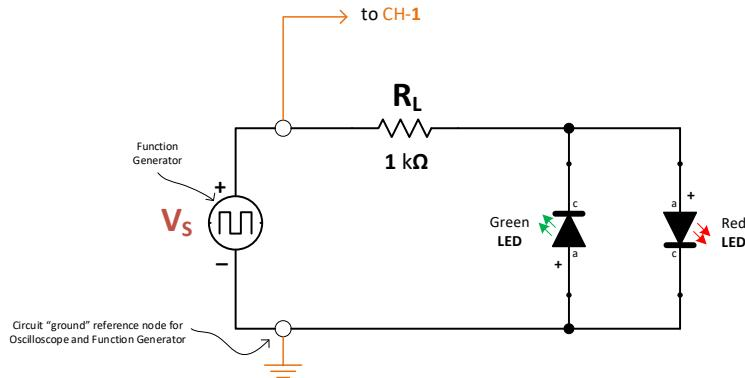

Figure 5.0: Dual “blinking LED” circuit
The purpose of this experiment is to visually observe the concept of **bi-directional** current flow of an AC signal through use of a “blinking” LED circuit, shown in **Figure 5.0**. The effects of “DC-Offset” feature of the Function Generator on a square-wave (digital) waveform will be demonstrated.
1. Select a **1 kΩ** resistor, the Red and Green LEDs from your Kit to construct the circuit in **Figure 5.0** on your breadboard. **Note:** In order to protect the LED from excessive current that can damage it, the current-limiting resistor, **R_L** of **1 kΩ** is used in series with the LEDs.
3. Connect the Function Generator to the circuit, and also to CH-1 of the Oscilloscope as shown in **Figure 5.0**. Monitor the Oscilloscope to confirm the waveform voltage setting of $\pm 5\text{V}$ and the waveform frequency of **1 Hz**.
Table 5.0: Observations of the “Blinking LEDs” of Figure 5.0 circuit.